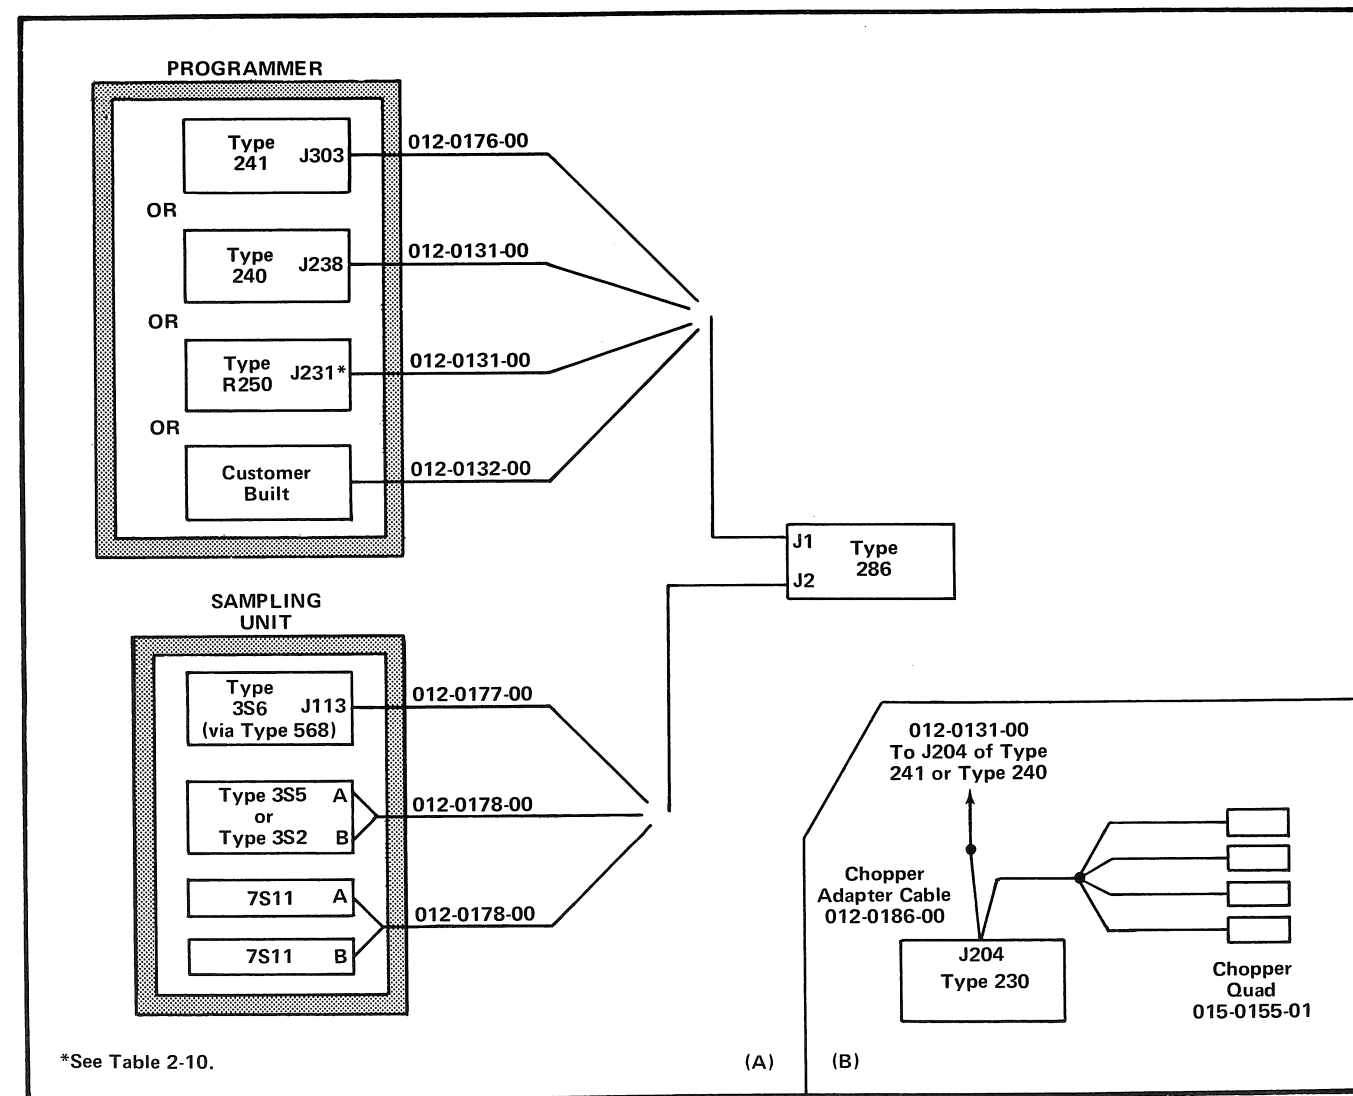

Fig. 2-22. (A) Connection of small multiplexer system to measurement system; (B) Chopper Option. (Cable numbers are Tektronix part numbers.)
Use the following procedure to connect interconnection cables in a small multiplexer system using a Type 241, Type 240, Type R250 or non-Tektronix programmer, and a Type 3S6, Type 3S5 or Type 3S2 as the sampling unit (see Fig. 2-22):
1. Turn off the Type 230 and programmer and disconnect the cable from J204 on the Type 230 rear panel (see Fig. 2-22).